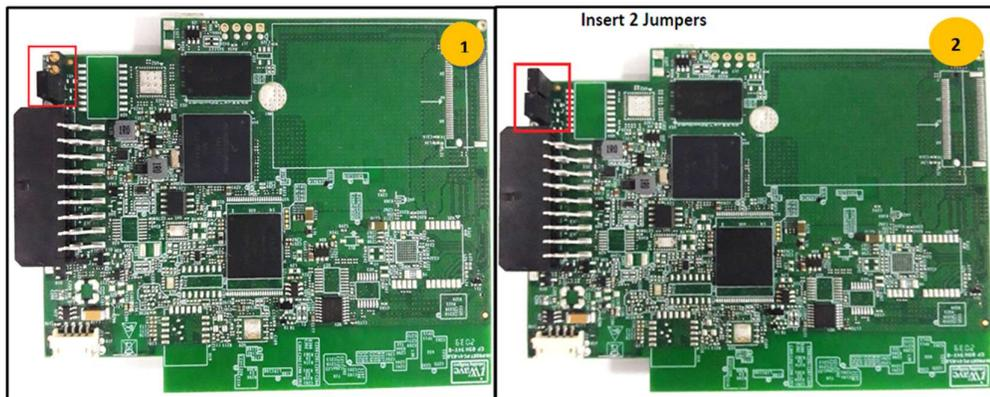

Figure 13: Hardware setup to flash the Telematics control unit
- Insert the jumpers as shown in the image (1) and image (2) of Figure 13